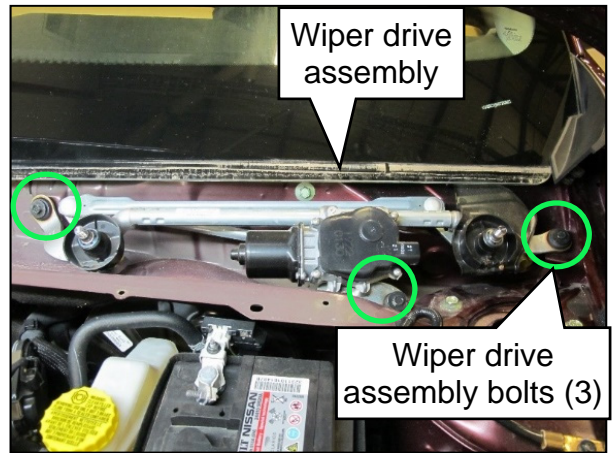

Figure 14
8. Remove the wiper drive assembly (Figure 14).
- a. Remove the three (3) 10 mm retaining bolts, as shown in Figure 14.